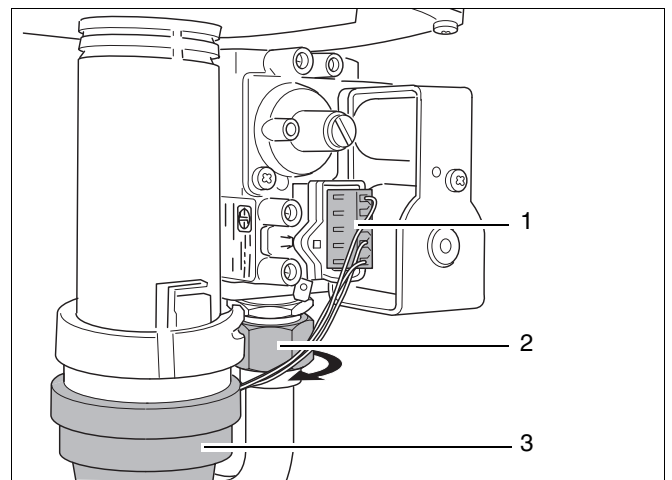

fig. 72 Remove suction tube
- Disconnect the plug from the gas valve (→ fig. 72, item 1).
- Loosen the swivel nut (→ fig. 72, item 2)
- Remove the suction tube (→ fig. 72, item 3).